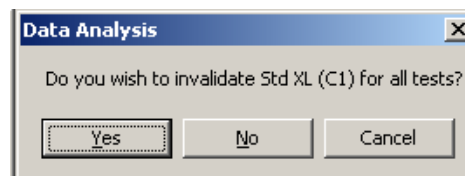

Figure 5-81 Invalidate Data Analysis Example
3. The appropriate **Standard** or **Control** dialog box opens. Figure 5-81 shows an invalidate example. If you want to invalidate or validate all tests click **Yes**. For only the single test click **No**. When invalidating, the **Name** box turns red with an asterisk proceeding it. When validating, the red returns to the normal color.